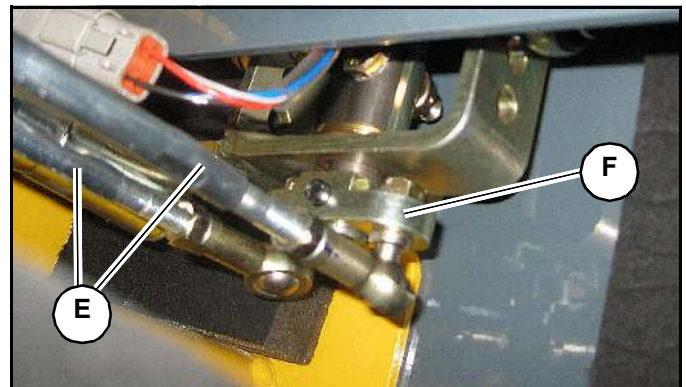

Fig. 149 – Left T-Bar Control Pivot
1. Left Control Handle Grip: Adjust the lengths of rods (E, Fig. 149) connected to the pivot assembly, so that bracket (F) on the control lever is oriented 90° to the chassis.
2. Left Control Handle Vertical Orientation: Adjust control rods (E, Fig. 149) at pivot assembly (F) so the left T-bar control lever is tilted 8° forward from vertical.